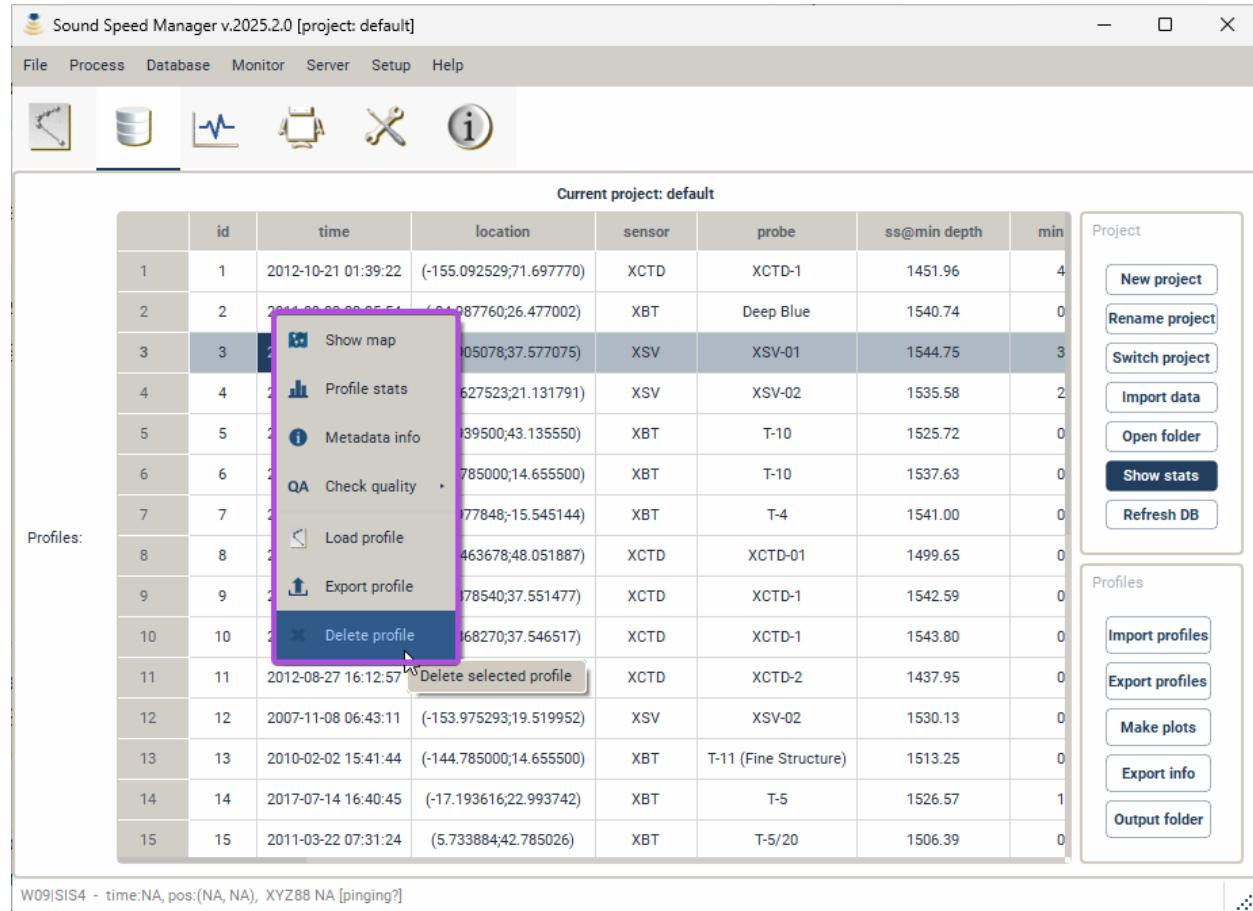

Fig. 2.47: The single-selection context menu provides functionalities specific to a single profile.
- Single-profile selection (Fig. 2.47).